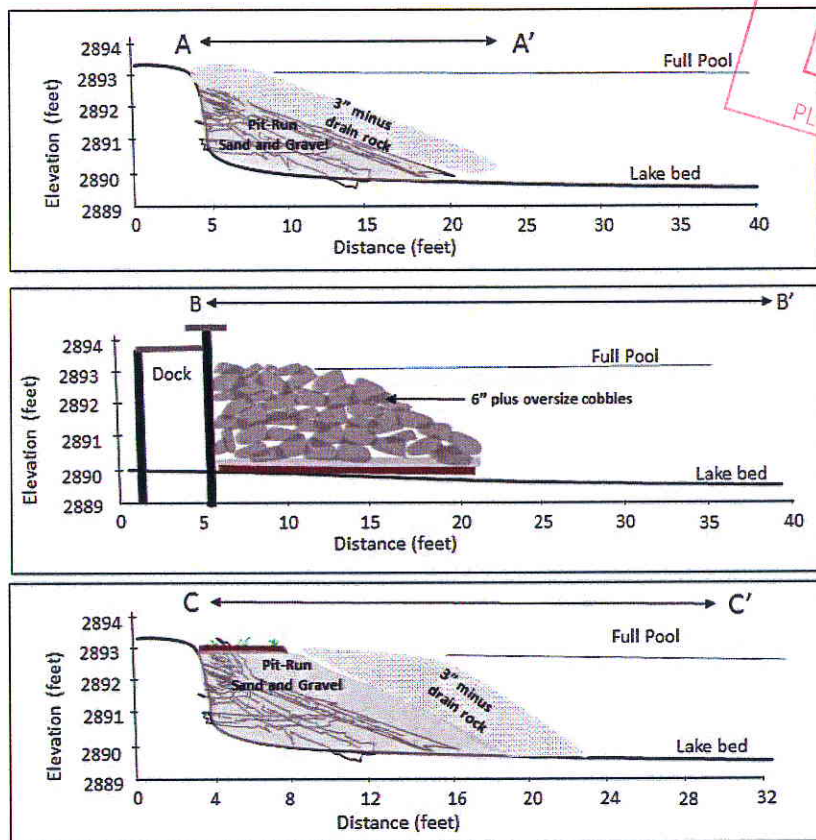

Figure 6. Cross-sections A, B and C of the proposed project corresponding to locations depicted with red lines in figure 4.
start and complete in January while lake bed is frozen. A list of material size and volumes is shown in figure 4 and corresponding cross-sections (Figs. 6 & 7).
Figure 4. This plan view of the Blackwood shoreline restoration project shows location and spatial extent of all material, including size and volumes. Blue dotted line shows position of full-pool water line. The red lines with letters correspond to cross-sections shown in figures 6 and 7. The photo inset (A) depicts what the shore attached gravel beach (Fig. 6 top cross-section A) will look like following construction and before 2014 full pool season. Yellow stippled areas depict extent of expected future buildup of logs and peat material followed by natural re-colonization of wetland plants similar to what has occurred on the WPA. Inset photos B and C both taken 10-4-2013 show what the Blackwood beach and shoreline will look in 5 to 10 years. Photo A was taken in April 2007 and photo C inset was in the same location 6 years later.